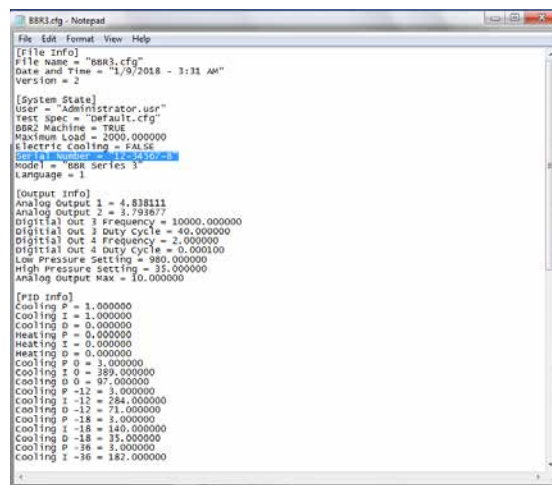

Figure D.11 - File After Opening Notepad
- Figure D.11 shows how the file will appear after opening in Notepad.